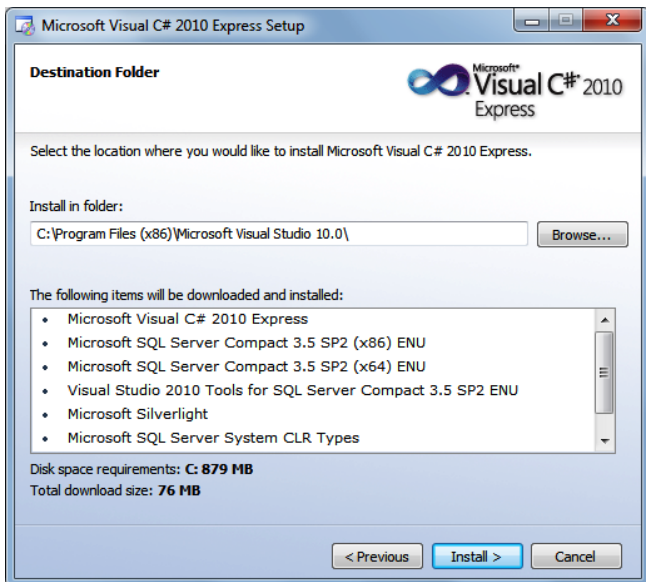

Figure 2-2. *The default installation location for Visual Studio*
4. If desired, you may change the installation location of Visual Studio Express, as shown in Figure 2-2. If you don’t have a good reason to change the default location, leave it as-is.